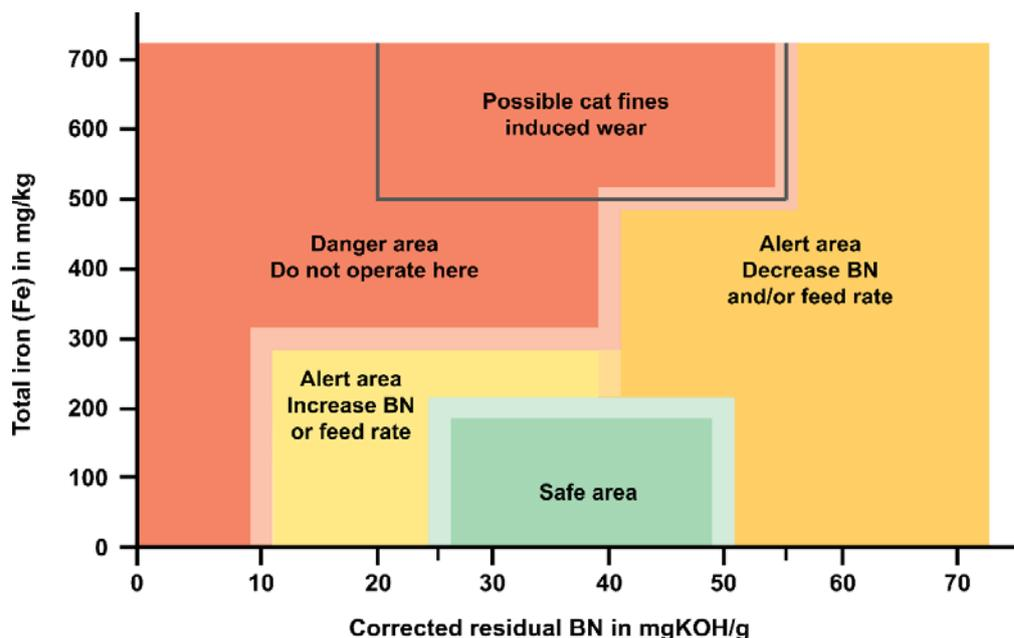

Fig. 2: Piston Underside, Scrape-down or Drip Oil Analysis Interpretation
When the analysis of the piston underside drain oil shows that the engine operates in the safe area shown in Fig. 2, you can adjust the feed rate and alkalinity of the cylinder lubricating oil. The permitted maximum feed rate is 1.2 g/kWh (see 7218-1 Cylinder Lubrication and 7218-3 Feed Rate - Adjustment). If the analysis of the piston underside drain oil shows that an adjustment to a higher feed rate than 1.2 g/kWh is necessary, you must change to a higher BN cylinder lubricating oil.
- You must obey the data given in Fig. 2.
- The safe corrected piston underside residual BN to prevent piston ring and liner corrosion is more than 25 mg KOH/g but less than 50 mg KOH/g (see Fig. 2).
Fig. 2 shows data for fuel oil with a sulphur content in the range of 1.5% m/m to 3.5% m/m and cylinder lubricating oil with a base number between BN 50 to BN 100.
Remark: There are smooth transitions between the different areas shown in Fig. 2.
Fig. 2 shows the operation ranges for engines with chrome ceramic piston rings and fully honed cylinder liners installed. It shows the relation between the piston underside total oil iron content and the residual BN. If necessary, the cylinder lubricating oil BN and/or feed rate must be adjusted to prevent excessive corrosion or magnetic iron in the piston underside oil.